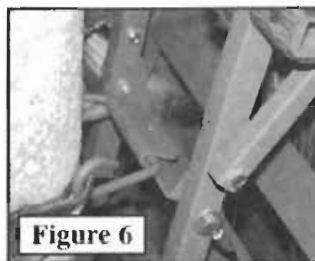
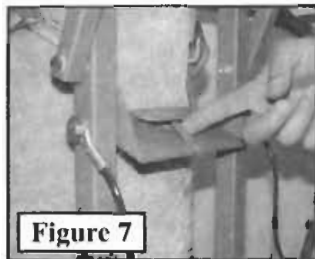

Figure 6
Figure 7
4. After assuring that your strap is securely attached to the tree, attach the treestand to the stand hook-up bar as shown in **Figure 6**. With the Headhunter, this is easier to accomplish if you keep the treestand folded flat. **YOU MUST** completely seat the u-shaped bracket into the stand hook-up bar as shown in **Figure 7**. **MAKE SURE** that the stand hook-up bar is **COMPLETELY** behind the detent spring